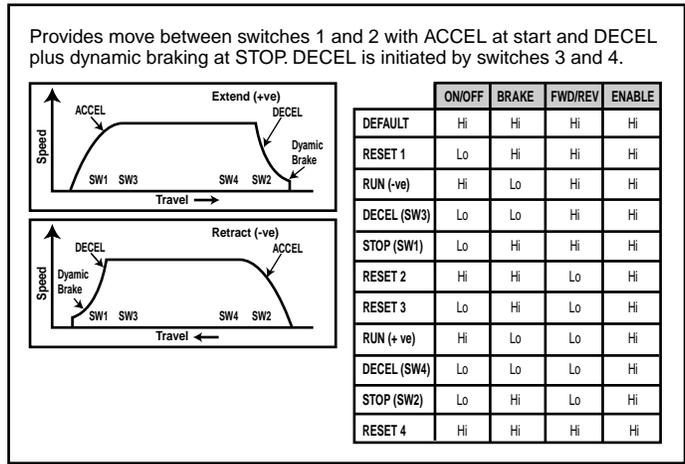

Figure 39
1. Refer to Figures 39. Connect motor RED (positive) wire to MOTOR+ terminal on bottom board.
switches (two in each direction) to initiate the DECEL (before end-of-travel) and BRAKE (at end-of-travel). The motion profile for this application is illustrated in Figure 39.